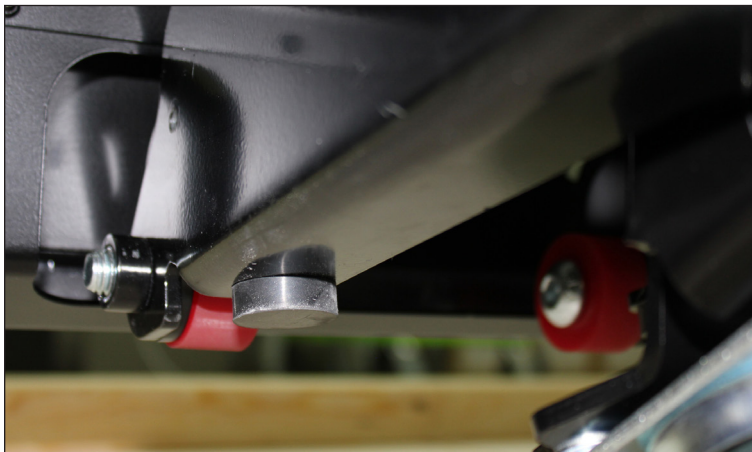

Figure 10: Reinstall Front Red Wheels Inside Caster Base
8. Use the 5/16" Allen wrench to reinstall the red wheels from *inside* the caster base to attach it to the bottom of the table. Refer to **Figure 10**. Do not overtighten the bolts; the wheels should be able to spin freely.